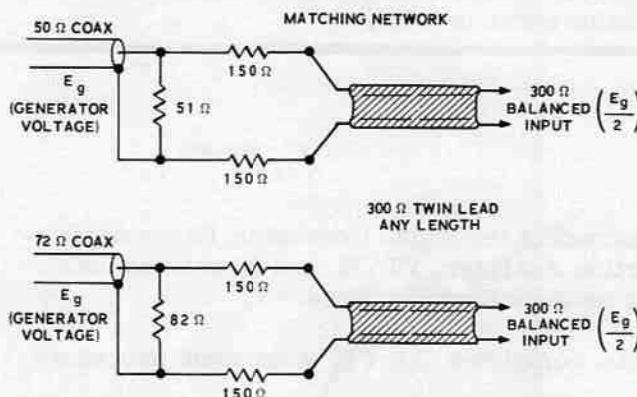

Figure 4-6
- () Connect the FM Signal Generator to the Receiver FM antenna terminals through a 300 Ω resistive matching network as shown in Figure 4-6.